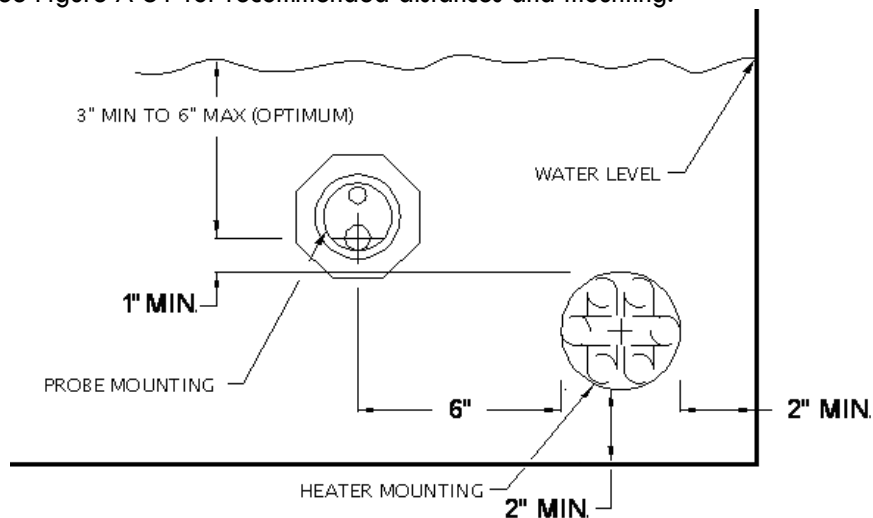

Figure A-51: Recommended Basin Heater Mounting
- Two inch hubs are used to insert the heater and combination level sensor /thermostat well in the PVC couplings located at the Basin (identified by REYMSA). Immersion Heater should be located 2 inch (minimum) above the basin bottom. The access port for the combination level sensor/thermostat well should be one inch (minimum) above the heater but below the water level. See Figure A-51 for recommended distances and mounting.